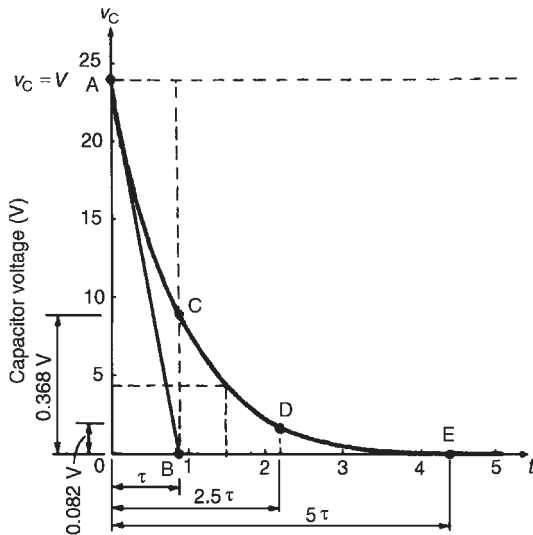

Figure 20.5
i.e. $5 \times 0.88 = 4.4$ s. With reference to Fig. 20.5, to construct the decay curve:
- (vi) the value of the transient after a time equal to two and a half time constants is 0.082 of the initial value, i.e. $0.082 \times 24 = 1.97$ V, shown as point D in Fig. 20.5,
- (b) The voltage drop across the resistor is equal to the capacitor voltage when a capacitor is discharging through a resistor, thus the resistor voltage/time characteristic is identical to that shown in Fig. 20.5. Since $v_R = v_C$, then at 1.5 seconds after decay has started, $v_R \approx 4.4$ V (see (vii) above).